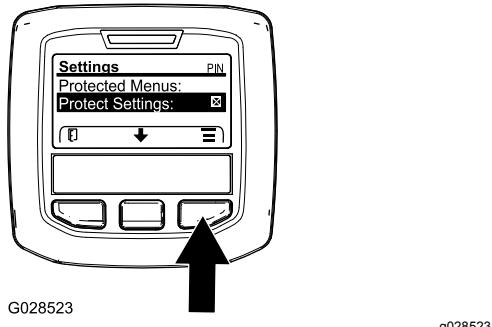

Figure 31
- Access the protected menu and unlock the protected settings submenu (Figure 31); refer to Accessing Protected Menus \(page 18\).